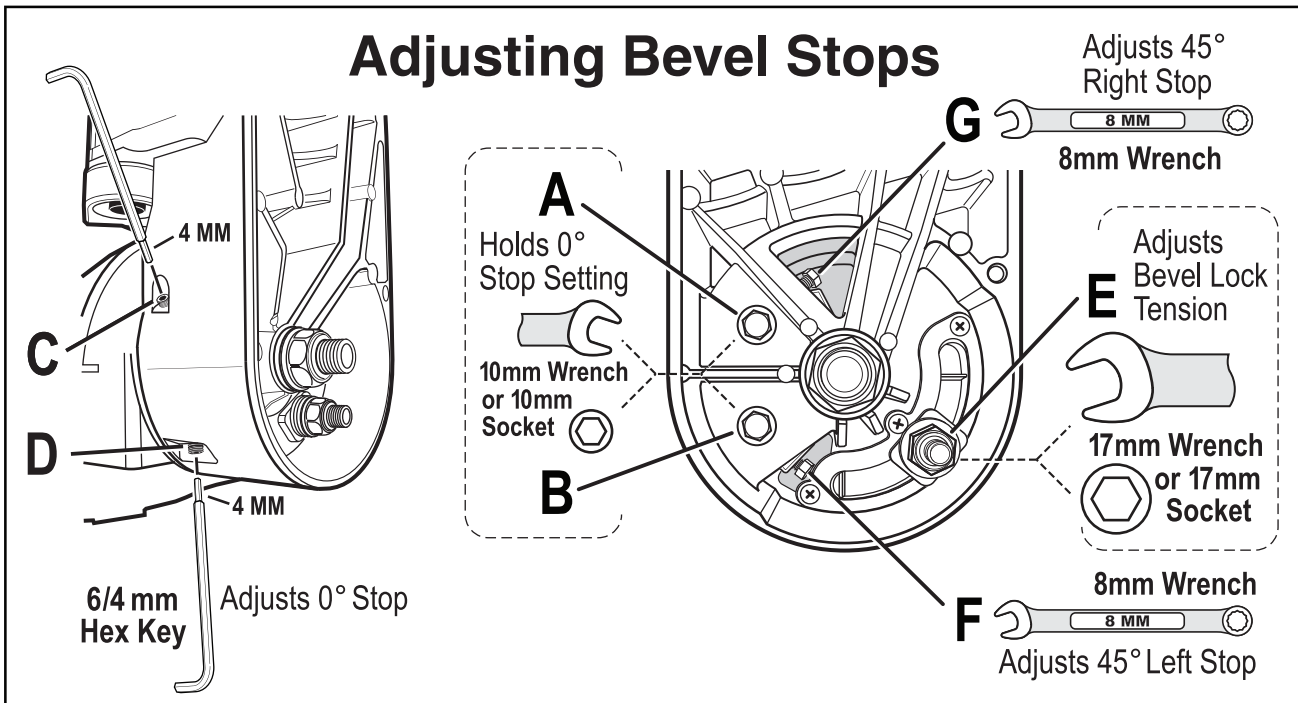

Figure 25
4. Place an 8mm open end wrench on bolt head "F" (see Figure 25).